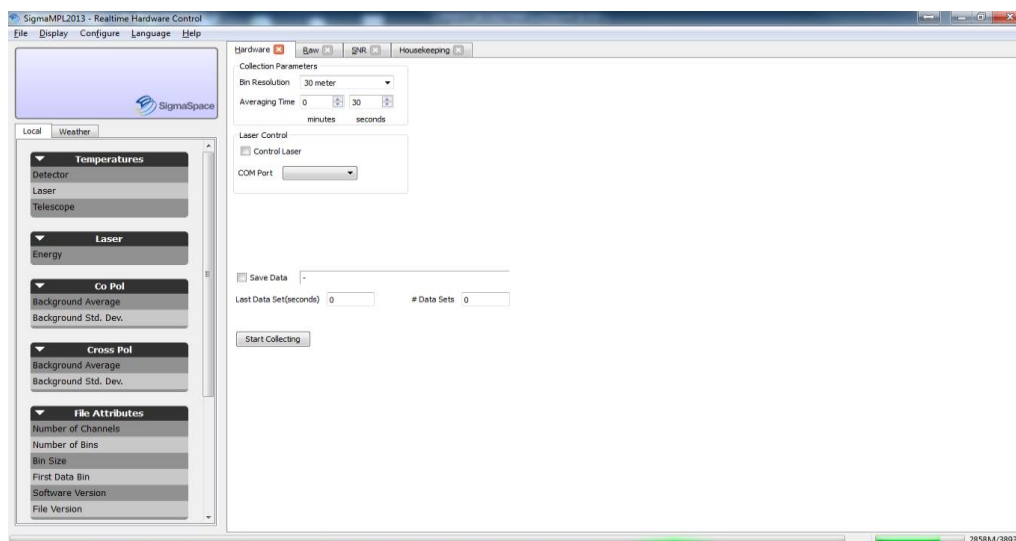

Figure 2: Real Time Hardware Control Window
4.2.1. From the opening window of *SigmaMPL*, press Ctrl+R or select **File→Real Time Hardware Control** (Figure 2).